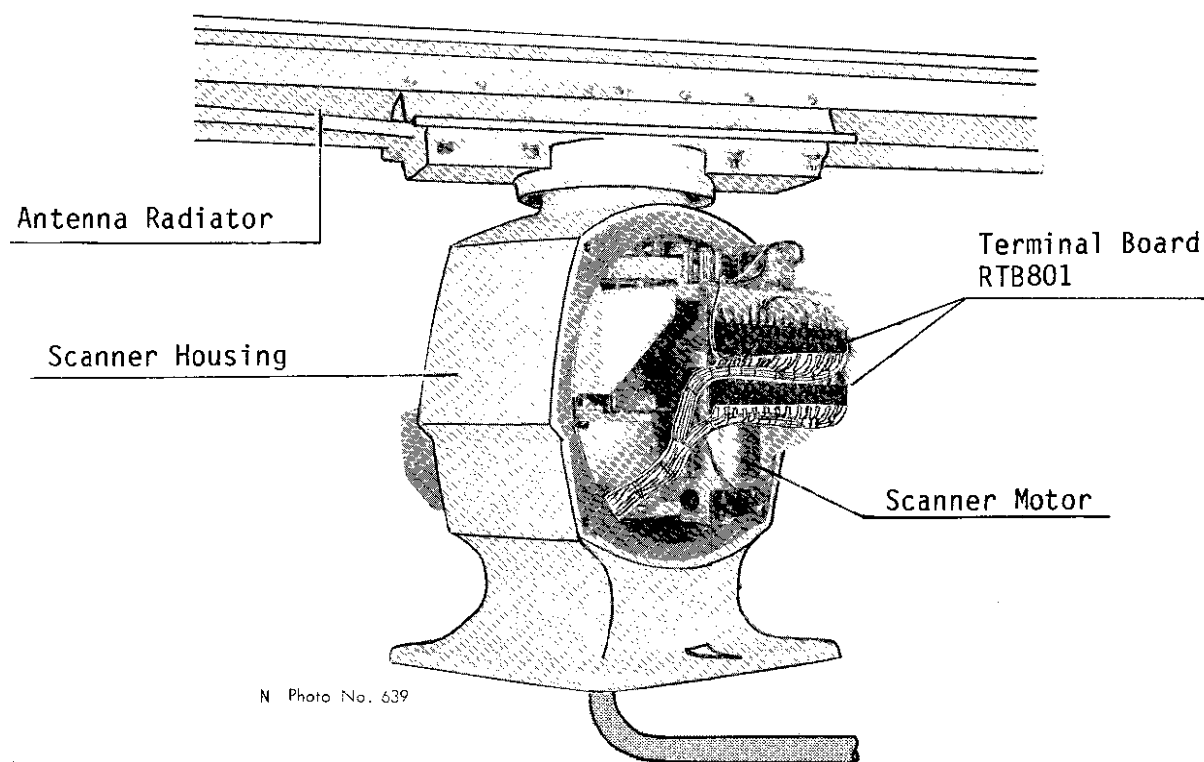

Fig.1-9
- 7) Connect the lead wires with crimp-on lugs to terminal board RTB801 shown in Fig.1-9, referring to the interconnection diagram on page 1-19.